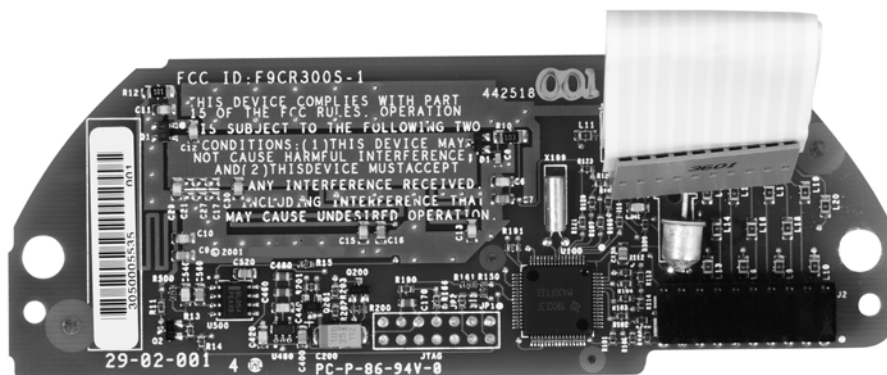

Figure 5.18 R300 Board
The R300 board continuously transmits data using a radio frequency (RF) signal which can be read by handheld or vehicle receivers. Table 5.4 describes these boards. Figure 5.18 shows the R300 Board.